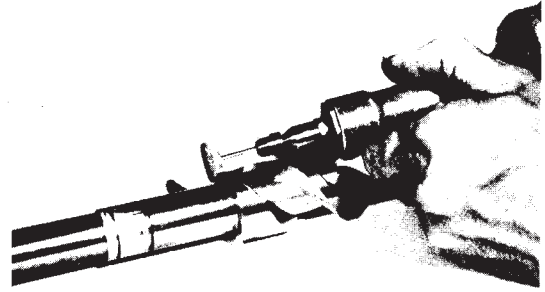

Figure 9
Step 3 — Loosen set screws on seal spring holder and remove seal member from shaft. Provide surface for set screws to lock onto shaft by grinding flats at the spotted areas with a pencil grinder (Fig. 9).